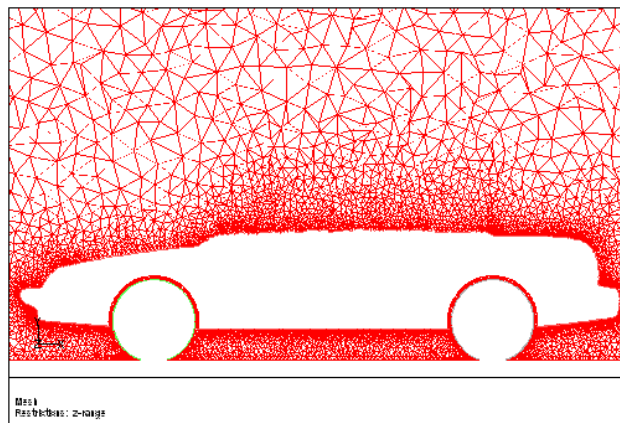

Figure 2.5: Slide of Cells at $Z = 0.38$
- ii. Display the mesh on a slide through the wheels ($z = 0.38$). See Figure 2.5.